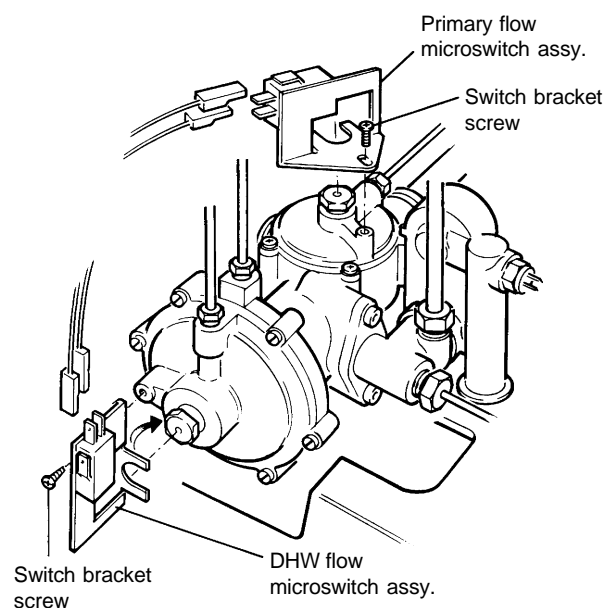

Fig. 31
8.26 DHW AND PRIMARY FLOW SWITCHES - Fig. 31
PRIMARY flow switch (back of diverter valve), red wires to terminals as shown in Fig. 31.
DHW flow switch (front of diverter valve), green wires to terminals as shown in Fig. 31.